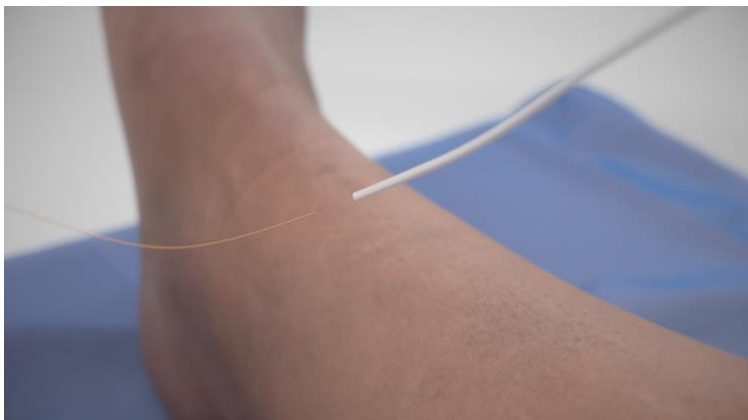

Figure 2
2. Connect the electrode array to the Receiver. (Figure 2)